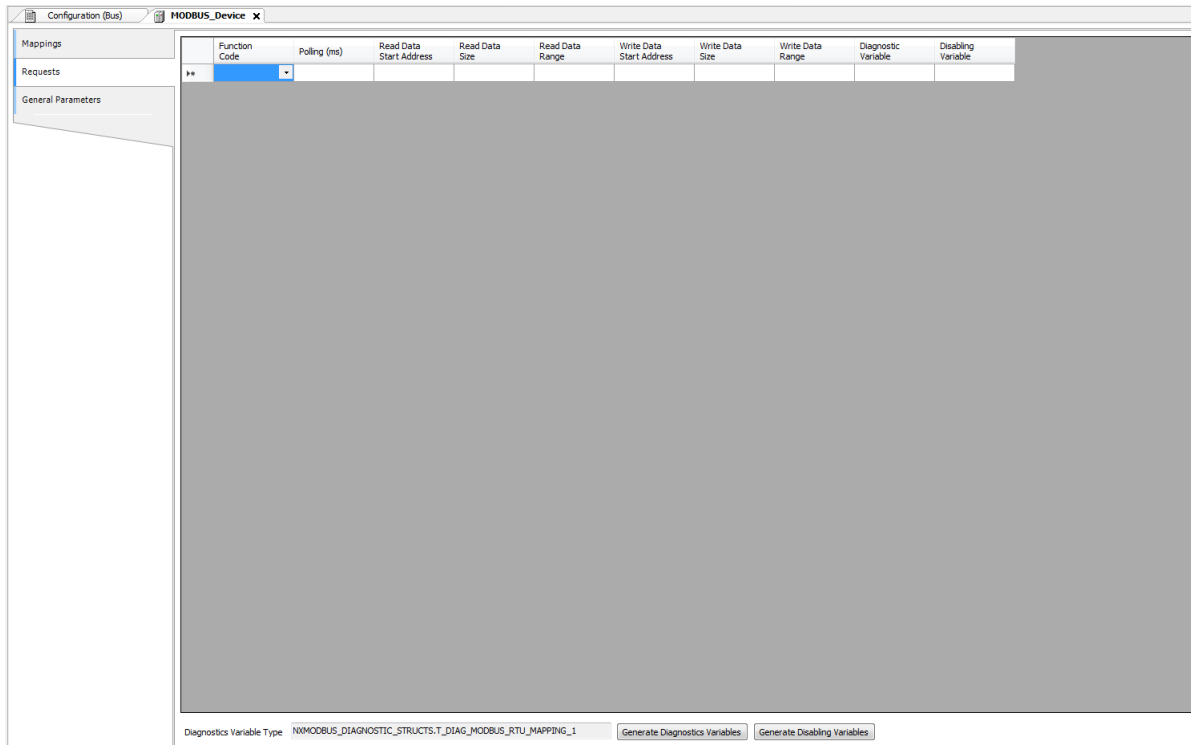

Figure 85: Data Requests Screen MODBUS Master
- Add and configure the MODBUS requests as presented in Figure 85, specifying the function, the scan time of the request, the starting address (read/write), the data size (read/write) and generate diagnostic variables and disabling the request via the buttons at the bottom of the window.